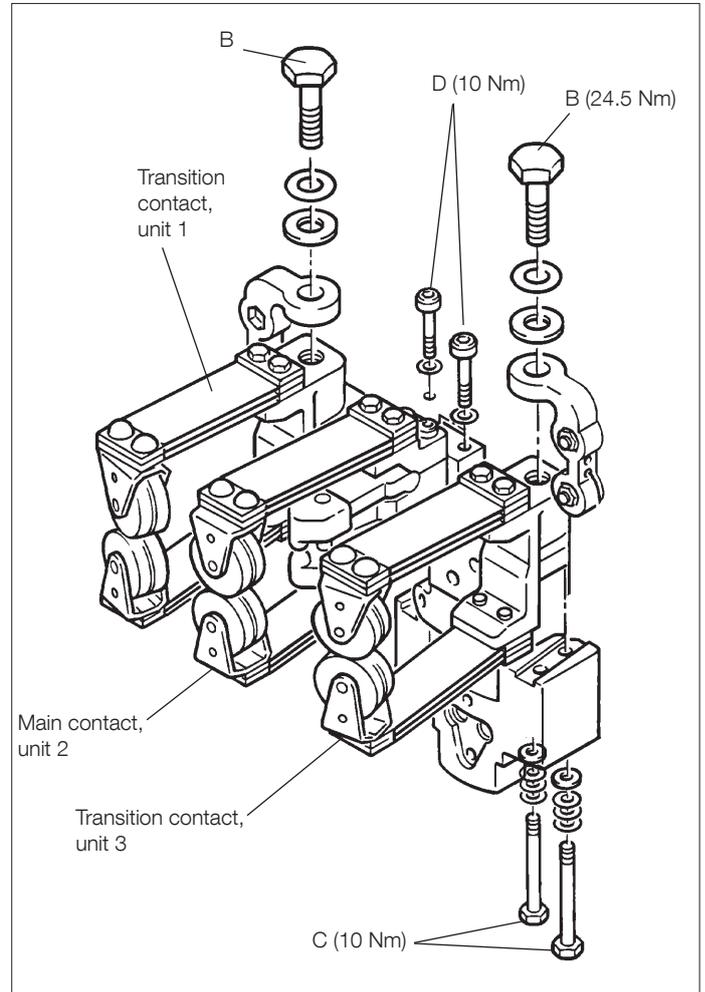

Fig. 22. Moving contact system design.
At first the transition resistors shall be loosened, but not removed, by loosening two bolts (B), see Fig. 22.
The new main contact unit and transition contact units are then remounted. Begin with the main contact. The transition contact units will be correctly positioned when the guide for the rollers according to Figs. 22 and A6 is used. All bolts should be tightened according to Fig. 22. It is not necessary to use a torque wrench. The torques (in brackets) are only guide values.